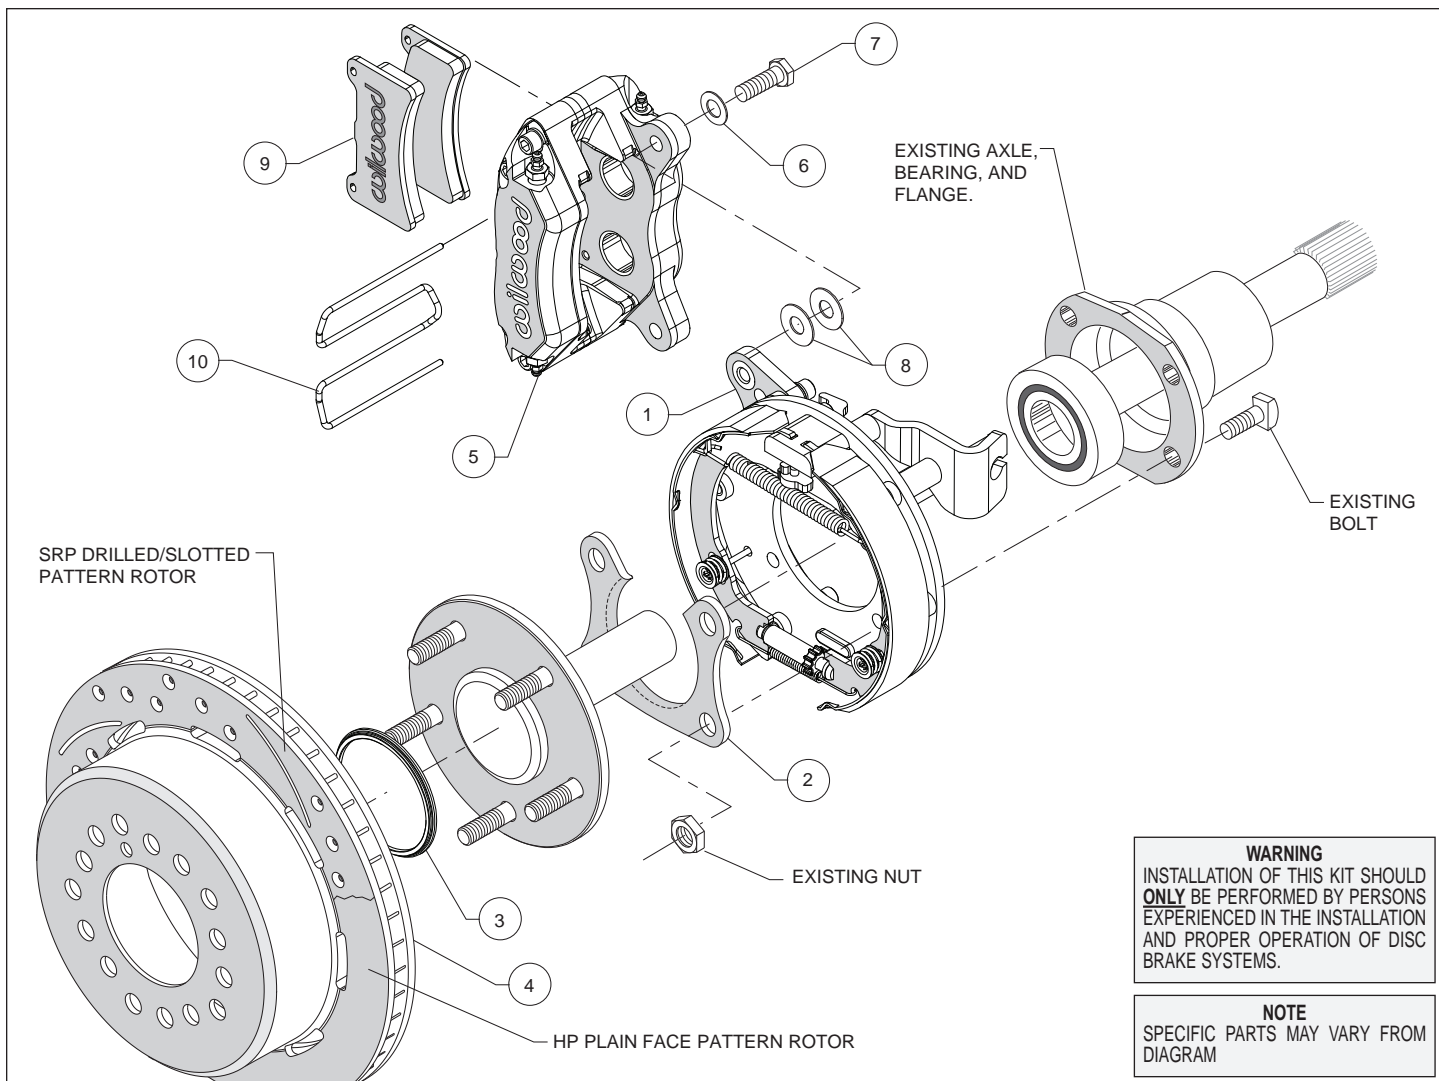
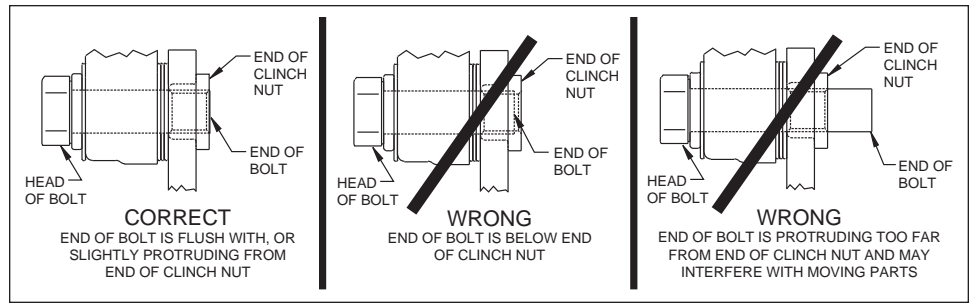

Figure 1. Typical Installation Configuration
Figure 5. Clinch Nut Engagement Diagram
Assembly Instructions (numbers in parenthesis refer to the parts list, and Figure 1 on the preceding pages): **CAUTION:** All mounting bolts must fully engage clinch nuts. Be sure to check that all bolts are either flush or protruding through flanged side of clinch nut after shimming, Figure 5.
- Orient the bracket assembly (1) as shown in Figure 1 and Photo 1 and slide it onto the axle. Insert the axle and bracket into the axle housing. Ensure that the bracket assembly backing plate fits flush against the axle housing flange.
- Install the bearing retainer (2) with the opening pointing upward and the lip facing inward (toward the bearing), as shown in Figures 1 and 4, and Photo 2. Secure retainer and bracket assembly to the axle housing flange using the Original Equipment Manufacturer (OEM) bolts and nuts, Figure 1. Apply red *Loctite*® 271 to the OEM bolt threads and torque to OEM specifications.
- Slide the rotor registration adapter (3) onto the axle register on the axle flange with the smaller O.D. facing toward the rotor/hat (4), Photo 3. Align the correct hole pattern in the rotor/hat with the stud pattern on the axle flange and slide into place, Figure 1 and Photo 4. **NOTE:** The rotor/hat must fit flush against the axle flange or excessive rotor run out may result. Install three lug nuts (finger tight) to keep the rotor/hat assembly in place while continuing with the installation. **NOTE:** Some OEM and after market axles come with stud sizes larger than 0.50" diameter. Verify stud size and have a qualified machine shop drill the bolt circle of the hat/rotor to the correct stud size, if necessary.
- NOTE:** Please reference the caution statement at the beginning of the assembly instructions. Mount the caliper (5) onto the caliper mounting bracket (1) using bolts (7) and washers (6), as shown in Figure 1. Initially place two .035" thick shims (8) on each bolt between the caliper and the bracket, Photo 5. Temporarily tighten the mounting bolts and view the rotor (4) through the top opening of the caliper. The rotor should be centered in the caliper, Photo 6. If not, adjust by adding or subtracting shims between the bracket and the caliper. Always use the same amount of shims on each of the two mounting bolts. **NOTE:** The end of each bolt must be flush with or slightly protruding from the head of the clinch nut, as shown in Figure 5. If necessary place spare shims between washer (6) and caliper mounting ear to achieve the proper clinch nut engagement. Once the caliper alignment and clinch nut engagement are correct, remove the bolts one at a time, apply red *Loctite*® 271 to bolt threads, and torque to 40 ft-lb.